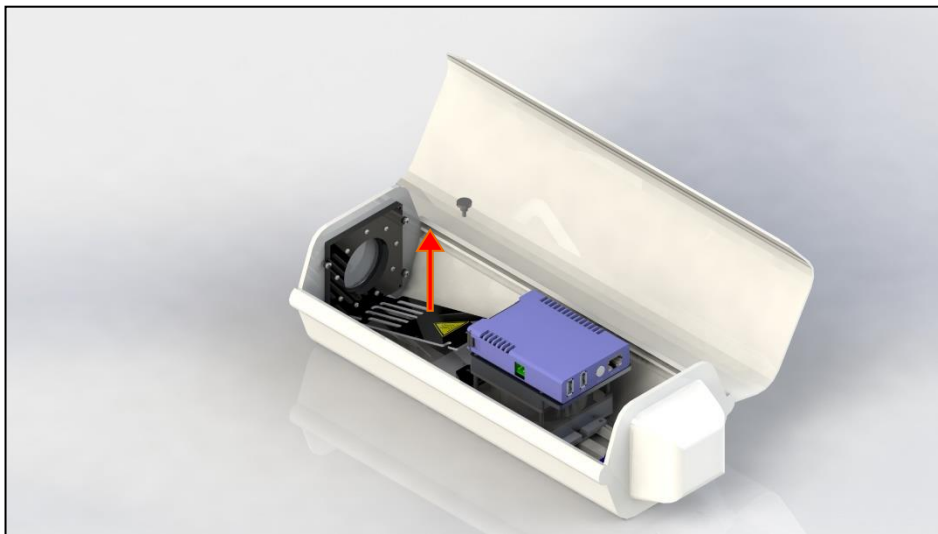

Figure 11: Remove the mounting plate
Step 2: Carefully remove the mounting plate (**Figure 11**).